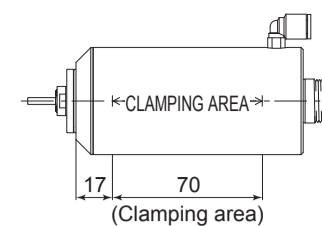

Fig. 8
- When mounting a Spindle, refer to the Clamping Area etched on the Spindle (Fig. 8).